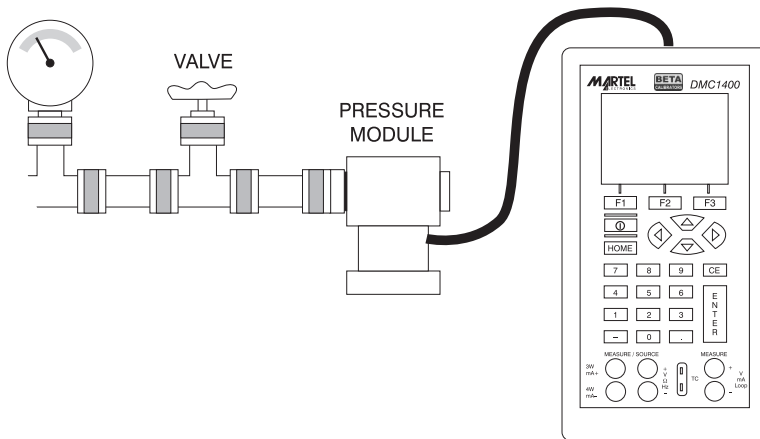

Figure 9. Connections for Measuring Pressure
1. Connect the pressure module to the calibrator as shown in Figure 9 using the 700mA pressure module adapter.